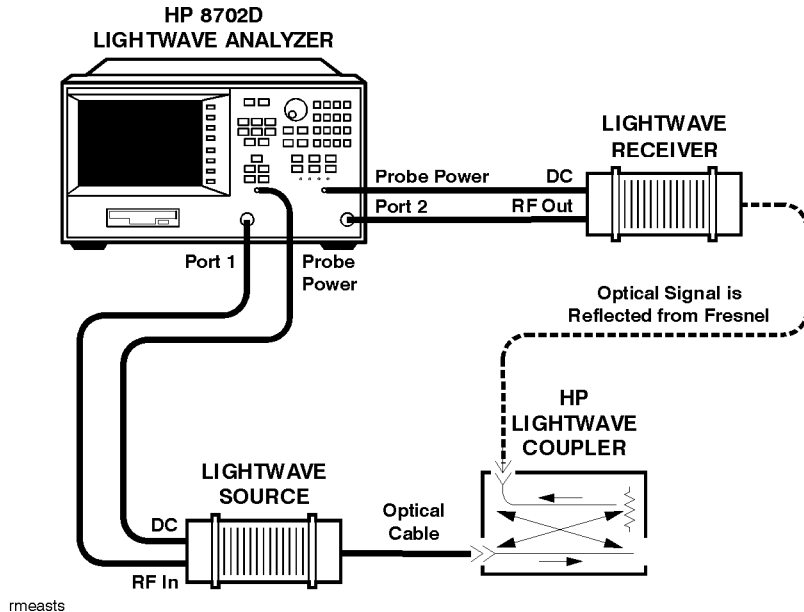

Figure 13-5. Reflection Measurement Test Setup
- 1 Connect the equipment as shown in **Figure 13-5**.